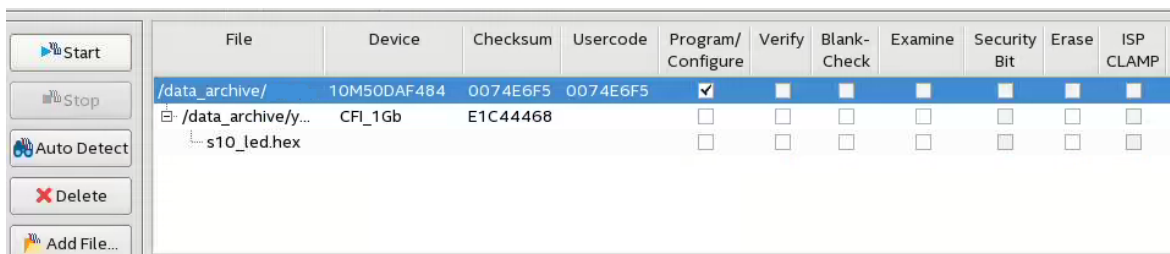

Figure 5: Program MAX10 with the Hardware Design
- f. Click Start. Figure 5 shows the setup in Programmer.